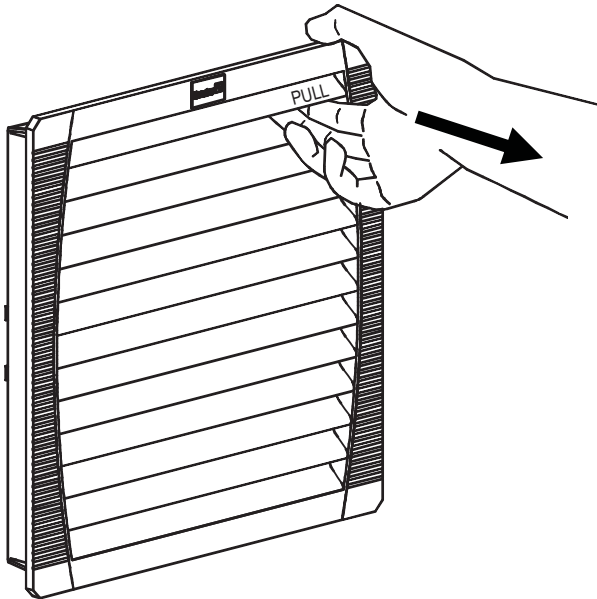

fig. 10.1
- 10 Filterfan replacement filtermats are sold separately at www.filterfanusa.com, for Filterfan model PF 22000. Remove cover from Filterfan on side of enclosure assembly (A) as shown in figure 10.1. Remove and replace filtermat as shown in figure 10.2.